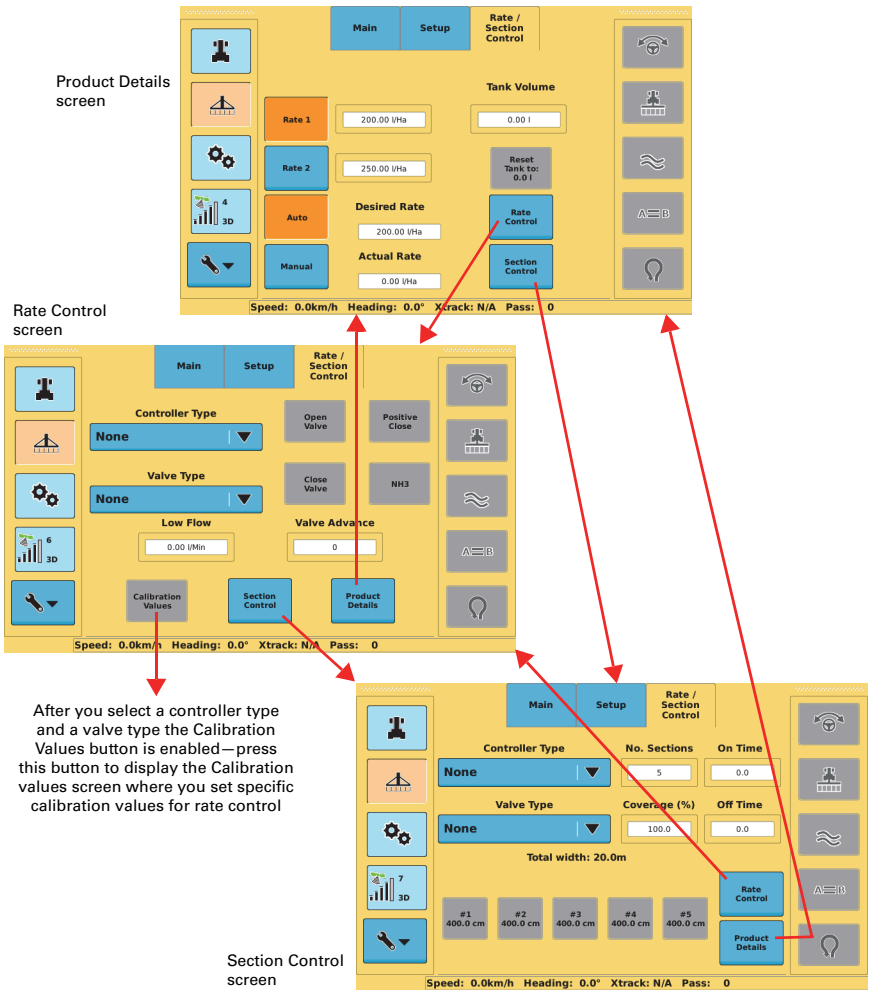

Figure 7-1: Navigating the rate and section control screens
1. Press the **Implement** screen button then press the **Rate / Section Control** tab at the top of the screen. The Rate/Section Control Product Details screen appears (see Figure 7-1 on page 134).